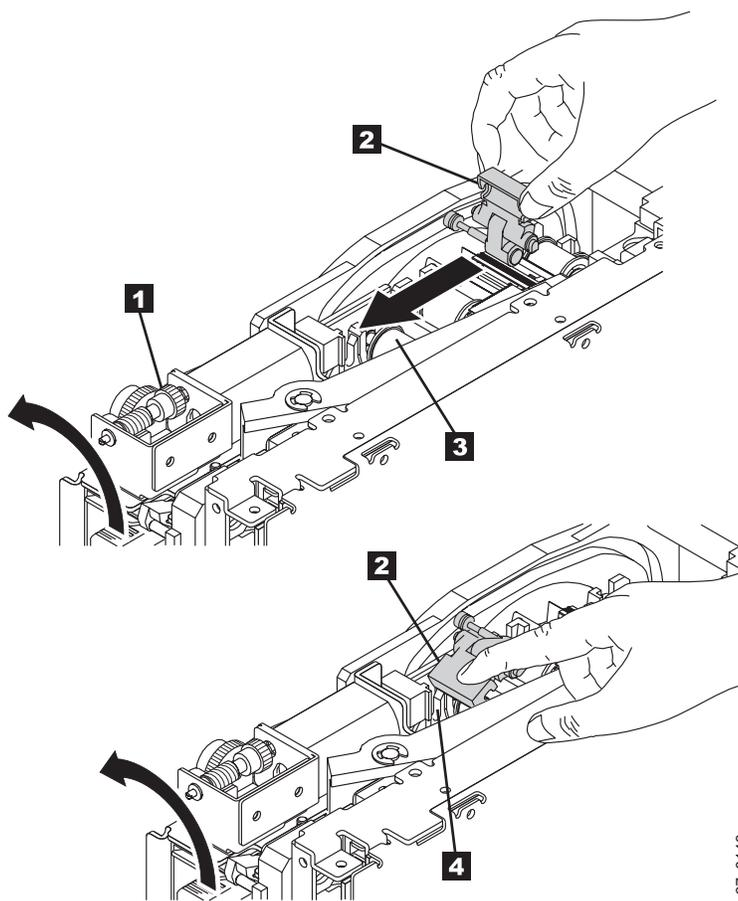

Figure 22. Guiding the leader block into the home position
10. Manually rotate the loader motor gear (see **1** in Figure 22) in the unload direction (counterclockwise) until the leader block **2** reaches the last roller **3**.